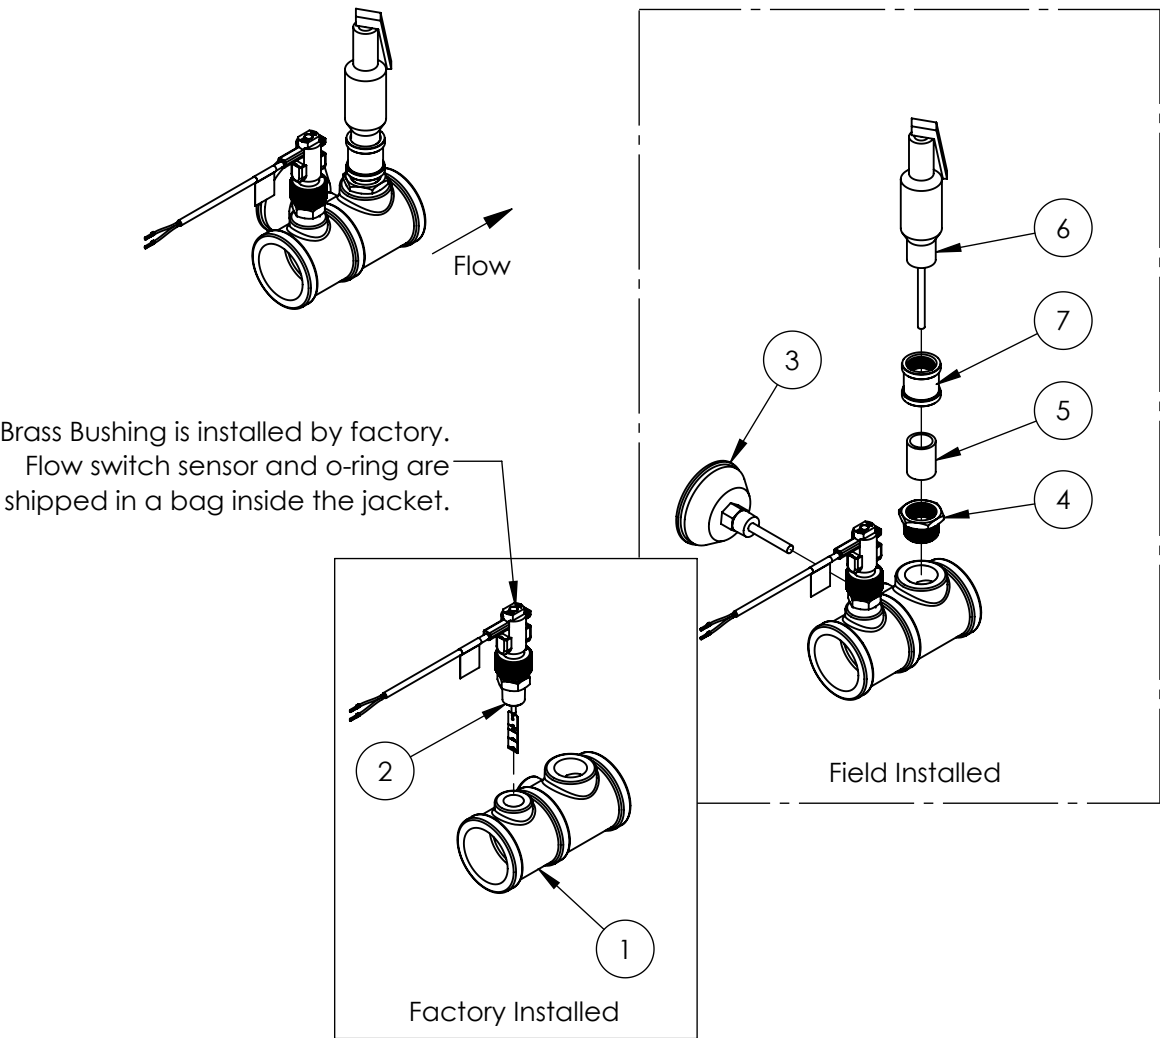

Figure 18: Relief Valve Package Assembly
2. The hot water supply line shall be connected to the outlet piping of the appliance shown in Figure 18.
- 1. The relief valve, T&P gauge, and required fittings ship loose with the appliance. These parts must be installed to the outlet as shown in Figure 18.
- This appliance is shipped with a temperature and pressure (T&P) relief valve complying with the standard for relief valves for hot water supply systems ANSI Z21.22 • CSA 4.4. Must be field installed as shown in Figure 18.